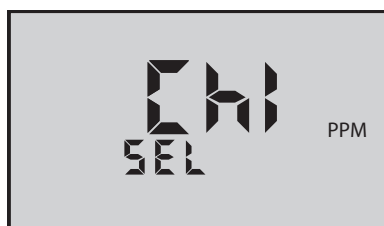

Figure 2
3. Press the  or  keys to toggle between mV (standard ORP mode) and FCE ppm. The setting chosen is displayed. (See Figure 2.)